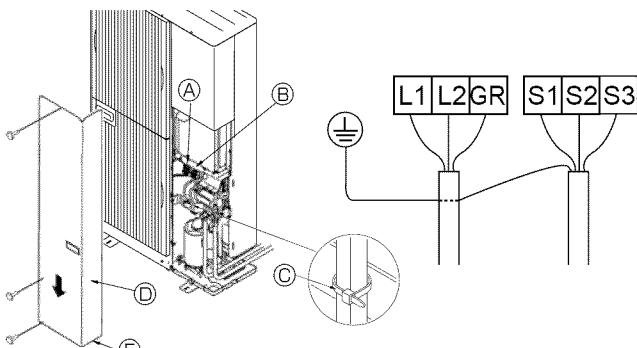
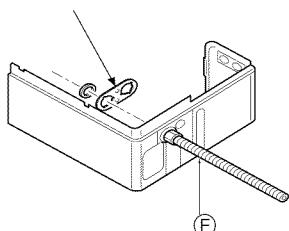

Fig. 7-1
Fig. 7-2
### 7.1. Outdoor unit (Fig. 7-1) (Fig. 7-2)
- ① Remove the service panel.
- ② Wire the cables referring to the Fig. 7-1.
- ③ Wire the cables so that they do not contact the center of the service panel or the gas valve.
- ④ Conduit mounting plates ( $\varnothing 22$  mm [7/8"]) are being provided. Pass the power supply and signal wires through the appropriate knock-out holes, then remove the knock-out piece from the bottom of the terminal box and connect the wires. (Fig. 7-2)
- ⑤ Fix power source wiring to terminal box by using buffer bushing for tensile force (PG connection or the like).